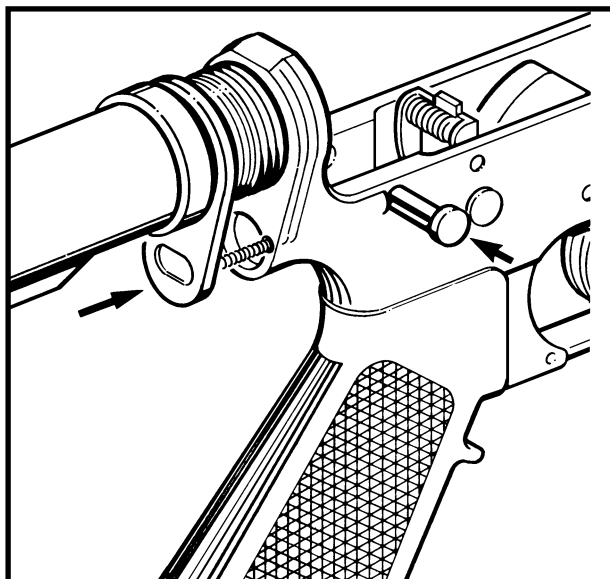

Figure 3-2-55 Reassembling the Receiver Extension
- g. Realign the receiver end plate with the receiver contours and press the end plate forward to trap the detent spring in the receiver. See Figure 3-2-55;